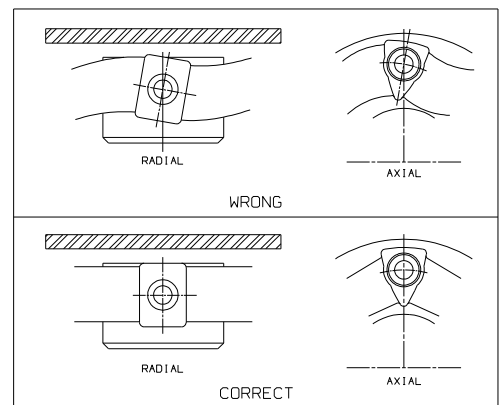
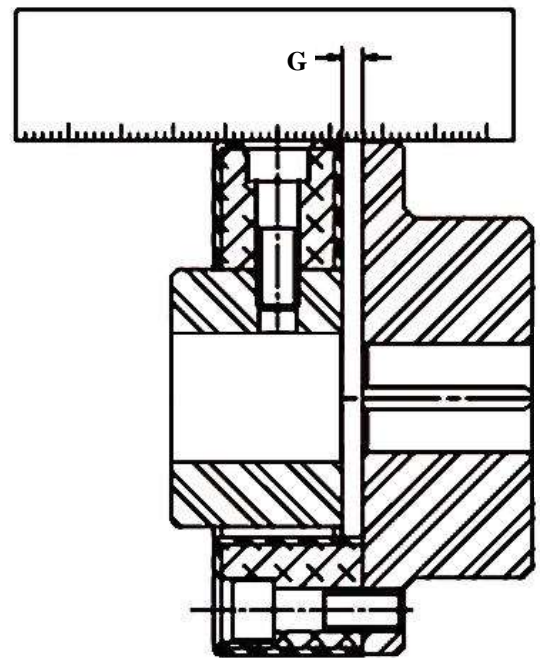

Figure 3
Figure 4
Since most adapter plate mounting holes will be threaded or have nuts welded to the back side of the plate, install the adapter on the flywheel. Then install the element with the axial cap screws or S-bolts finger tight only. It is usually a good idea to place a small amount of non hydrocarbon lubricant under the head of the cap screws to prevent the inserts from twisting (See figure 3) when its time to tighten these screws to their specified torque. **Avoid using hydrocarbon based grease or oil around the LF elements.**
3. Attach the rubber element to the flange hub, flange adapter plate, or flywheel using the axial screws as shown in Figure 3. Only tighten these screws finger tight at this time. If this is the S-Style element, you will need to install the S-Pins on the flywheel or flywheel adapter without the element in place. The S-Pins can be tightened to the specified torque defined in Table 1.
5. Tighten the axial screws first. Make sure there is some non hydrocarbon lubricant under the head of the screw before inserting the screw through the element. See Table 1 for the proper torque values to use when tightening these screws. While tightening these screws, watch the inserts to ensure the inserts are not twisting or trying to rotate. See Figure 3, right side.
Note: Ensure the inserts in the element are not twisted as shown in Figure 3, top left. If the insert is twisted, it will not seat properly on the cylindrical hub and the bolts will come loose causing premature failure.
b. When tightening the screws make sure the aluminum inserts or rubber arms are not twisted (see figure 4). To reduce the friction between the screw head and aluminum insert, place a drop of a non-hydrocarbon lubricant under the bolt heads prior to tightening. **If the inserts are twisted (see figure 3), the radial inserts may not seat properly on the cylindrical hub or spacer shaft. If this happens the curved surface of the hub will not seat properly on the hub and will not carry the load with the full surface of the insert. When this happens, all the radial screws can loosen and the coupling will fail.**
d. S-Style elements can be installed backwards very easily. Care should be taken to ensure the standoffs are facing the flanged hub, flywheel adapter, or flywheel. The Lovejoy logo should be clearly visible facing outward. There should be gap between the element and flange as shown in figure 4. The dimension for this gap is defined in table 3.